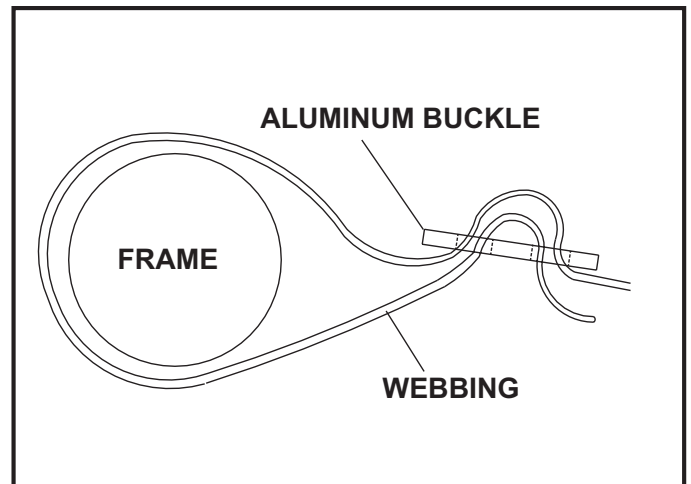

Fig. 4
- Install nerf bar webbing around frame using supplied aluminum buckles (See Fig. 4).